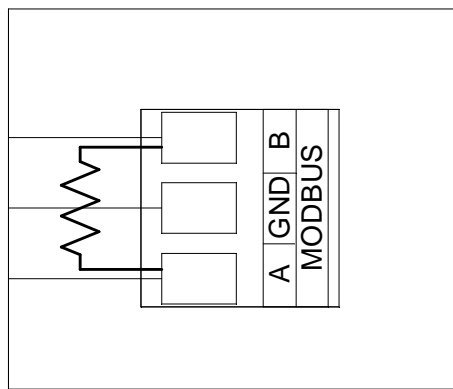

Figure 18: Installing the Terminating Resistor
4. If a VOC Pro or T3A detector is the final terminating detector head, then a separate, 120 Ohm, 3/4W terminating resistor must be installed at the detector head's Modbus terminal strip between terminals A and B as shown in Figure 18.